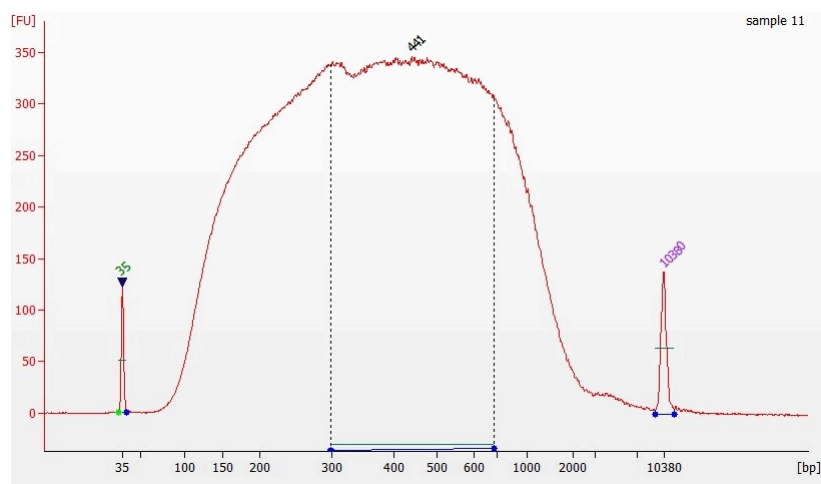

Figure 1 1000 ng gDNA (dissolved in pH8.0 1xTE buffer) 1.8x beads purification fragmentation product (30 $^{\circ}$ C, 11 min)
- For the first fragmentation test, it is recommended to take 40 μ L of product from the 80 μ L mixture in Step 6 for purification with 1.8X beads and elute in 25 μ L of En-TE. Take 1 μ L of elute product for Agilent 2100 High Sensitivity test and make sure the smear size is 100 to 2000 bp with the peak size between 300 bp - 800 bp (Figure 1).